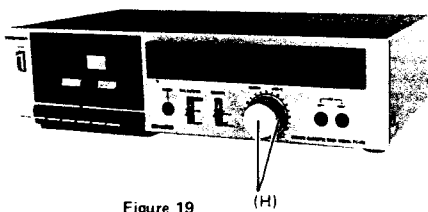

Figure 19
2. Remove the two knobs (H). (See Figure 19).